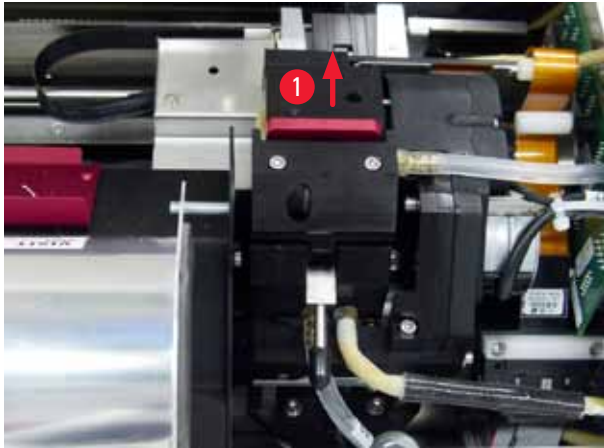

Fig. 49
2. The print head (→ "Fig. 49-1") moves upward to a position approx. 1 cm away from the sealing lip (→ "Fig. 49").